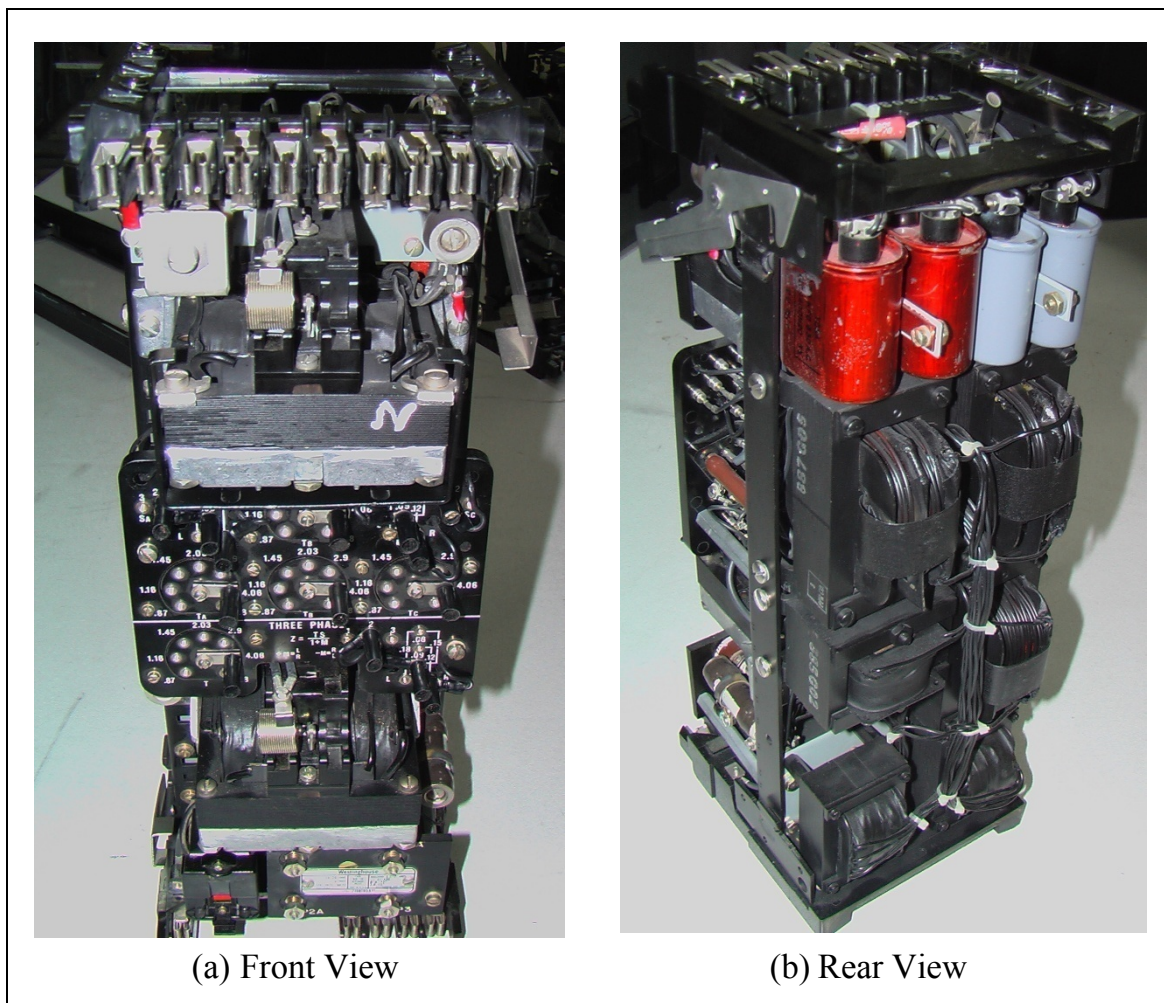

Fig. 2.2-23 Distance Relay Type KD-10
- Line drop compensator (T) in the 3 phase unit
As shown in Fig. 2.2-23 and 24, the compensator (T) is two-winding air gap transformer, it has one primary current winding. The compensator (TAB) and (TBC) are three winding air gap transformers having two primary current windings. Each primary winding has seven taps, which terminate at the tap block, as shown in Fig. 2.2-23a. The secondary winding has a single tap, which divides the winding into two sections.